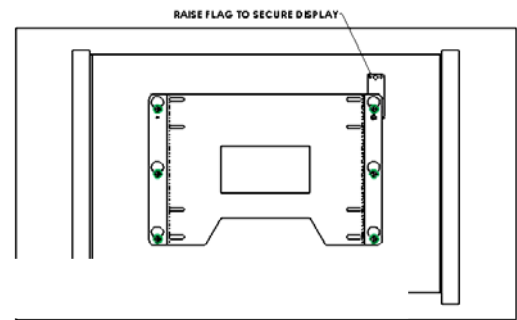

Figure 4
4. With the aid of another person, lift the display up to the mount, align the mounting buttons on the display with the teardrop slots in the mount, and set the display into place (see Figure 4).